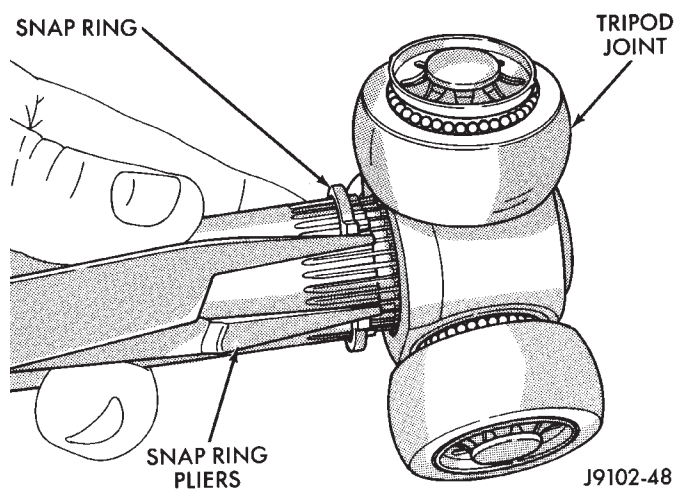
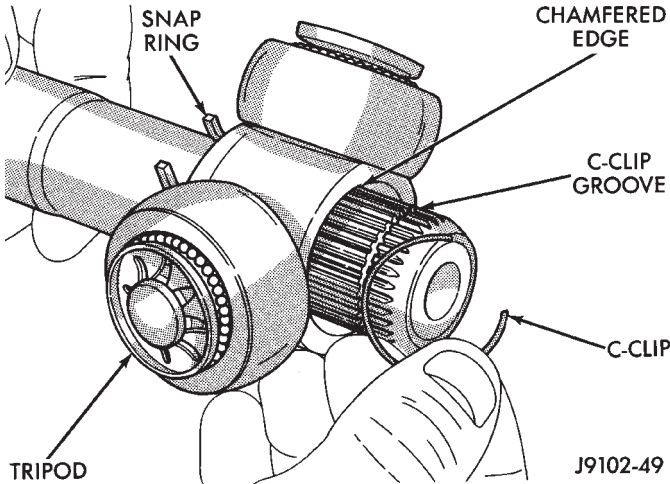
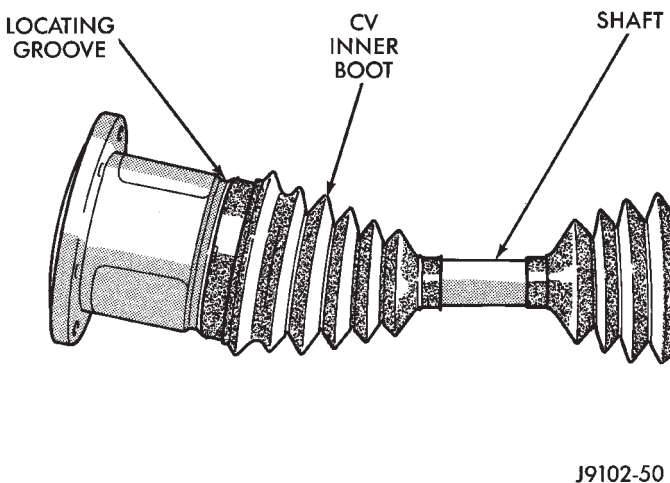

Fig. 8 Snap Retaining Ring Removal
Fig. 9 C-Clip Removal/Installation
Fig. 10 Inner C/V Joint Boot
(1) Remove the axle driveshaft.
(2) Place the inner C/V joint housing in a vise.
(3) Remove the inner boot retaining clamps. Pull the inner boot back onto the interconnecting shaft. Discard the retaining clamps.
(4) Pull the tripod and shaft straight out from the inner C/V joint housing.
(5) Remove the snap retaining ring from the groove behind the tripod (Fig. 8). Slide the tripod toward the center of the shaft. Remove the C-clip on the outer end of the shaft (Fig. 9).
- (1) Slide the boot down enough for work access.
- (2) Install the snap ring past the ring groove (toward the center of the shaft). Slide the tripod onto the end of the interconnecting shaft. Be sure the chamfered end of the tripod is adjacent to the C-clip retaining ring groove (Fig. 9).
- (3) Install the C-clip in the groove. Slide the tripod out against the clip. Install the snap ring in the inner groove. Be sure the snap ring and C-clip are seated.
- (4) Apply the required quantity of lubricant to the housing and boot. Coat the interior of the joint housing and the tripod.
- (5) Insert and seat the tripod and shaft in the housing.
- (6) Position the large-diameter end of the inner C/V joint boot over the edge of the housing. Insert the lip of the boot into the locating groove at the edge of the housing (Fig. 10).